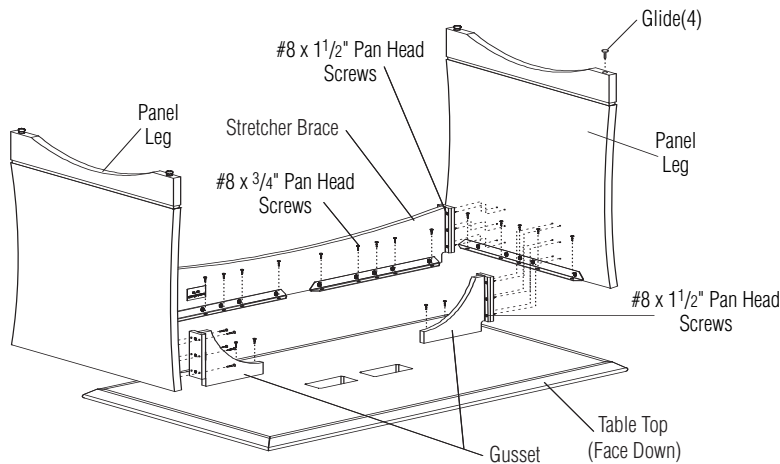

Figure 2
3. Place table top upside down onto a soft protective surface (Figure 2).
4. Attach stretcher brace and gussets to end panel legs in pre-drilled holes with #8 x 1 1/2" screws (Figure 2).